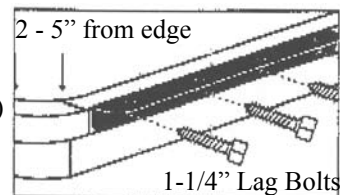

Figure 1
2. Measure 1-1/2" from end of cabinet edge from kitty corner flush to cut line. (fig. 1)
3. Mark holes, on center, with marker on both sides of the hot tub. (figure 1)